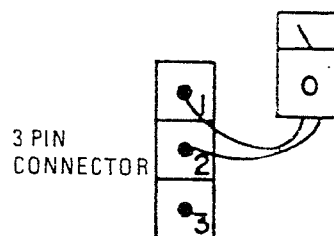

Figure 5-18. Back View Connector C
3. Use the R x 1 scale of the ohmmeter and measure the resistance between the pins located in 3 pin connector C shown on the chart. See figure 5-18.